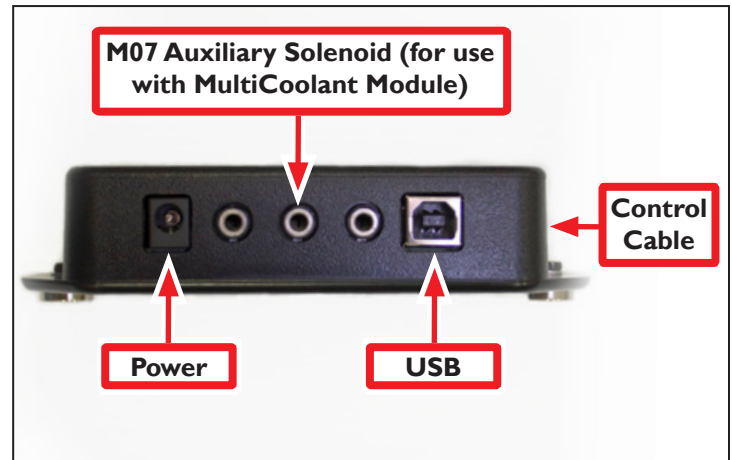

Figure 23
- Connect AC/DC Power Adapter to Power port (see **Figure 23**)
- Connect USB Cable to USB port (see **Figure 23**)
- Connect Control Cable from SmartCool Head Unit (see **Figure 23**)